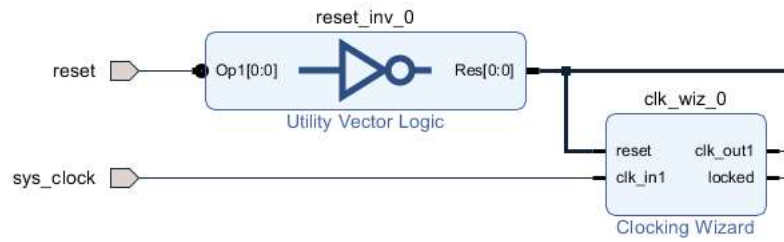
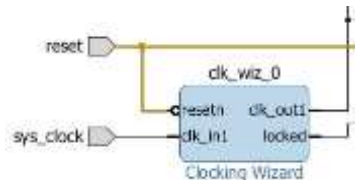

Figure 19: Clocking Wizard with an inverter to align the polarity
Figure 20: Clocking Wizard with inverted Resetn Connected to the Reset Input Port (if no inverter presented, not in our case)
5. Once connected your design should look like in Figure 19 (not as in Figure 20).